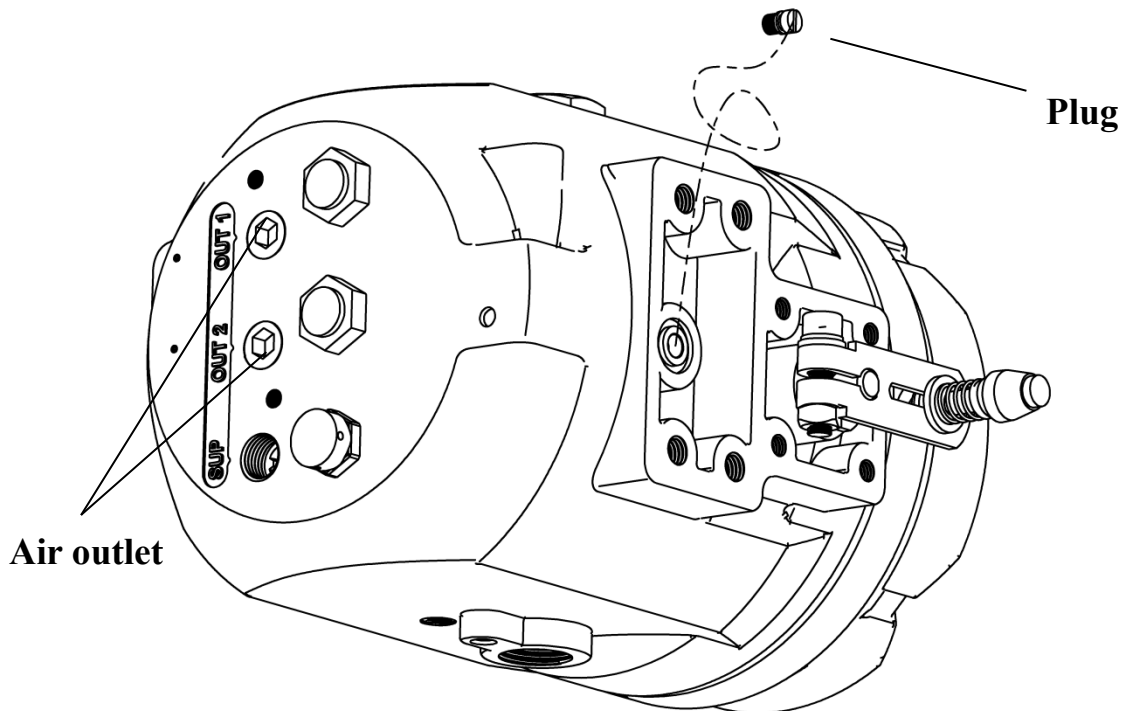

Figure 21. Schematic diagram of plug and air outlet
- Use a flathead screwdriver to remove the plug for no tubing connection on the back of the housing and block the air outlets OUT1 and OUT2 with a 1/4" plug. As shown in Figure 21.